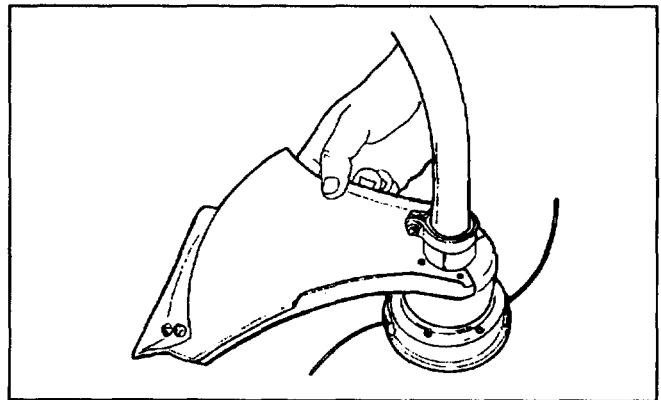

Fig. 3
2. Push the line guard down to the top of the cutting head assembly and rotate the line guard to the proper position (Fig. 3). The guard is in the correct position when it points toward the engine and the screw holes in the guard line up with the screw holes in the top of the cutting head assembly.